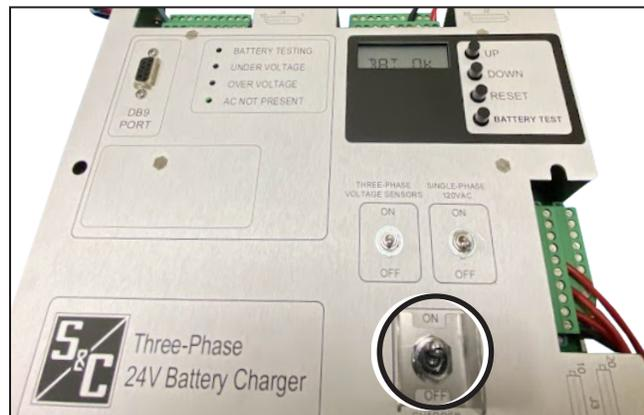

Figure 17. The LCD screen will turn on when the CHARGER POWER switch is in the On position if a battery is connected.
- STEP 4.** Turn the CHARGER POWER switch to the **On** position. The charger will turn on, and the LCD screen will display the charger and battery status. See Figure 17.